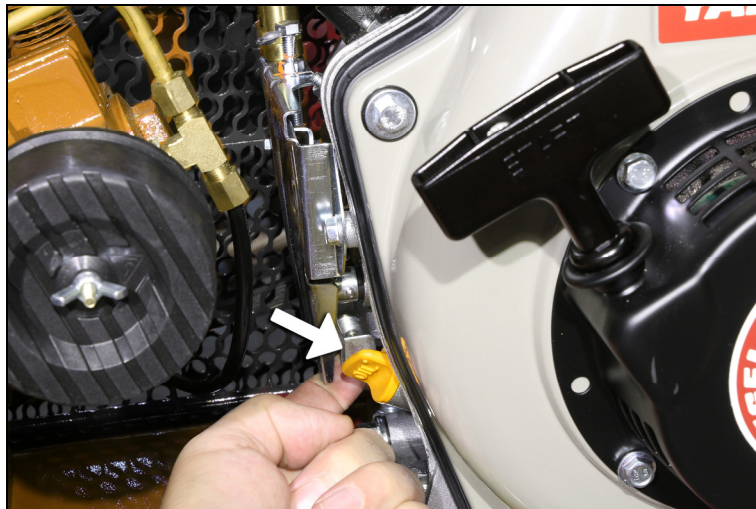

Figure 6-3 Yanmar Diesel Engine Fuel Stop Lever
- (a) For engines with a recoil starter only: Locate the fuel stop lever mounted on the lower left-hand side of the engine behind the oil filler cap / dipstick and pull it forwards. Hold firmly until the engine stops. Refer to Figure 6-3.